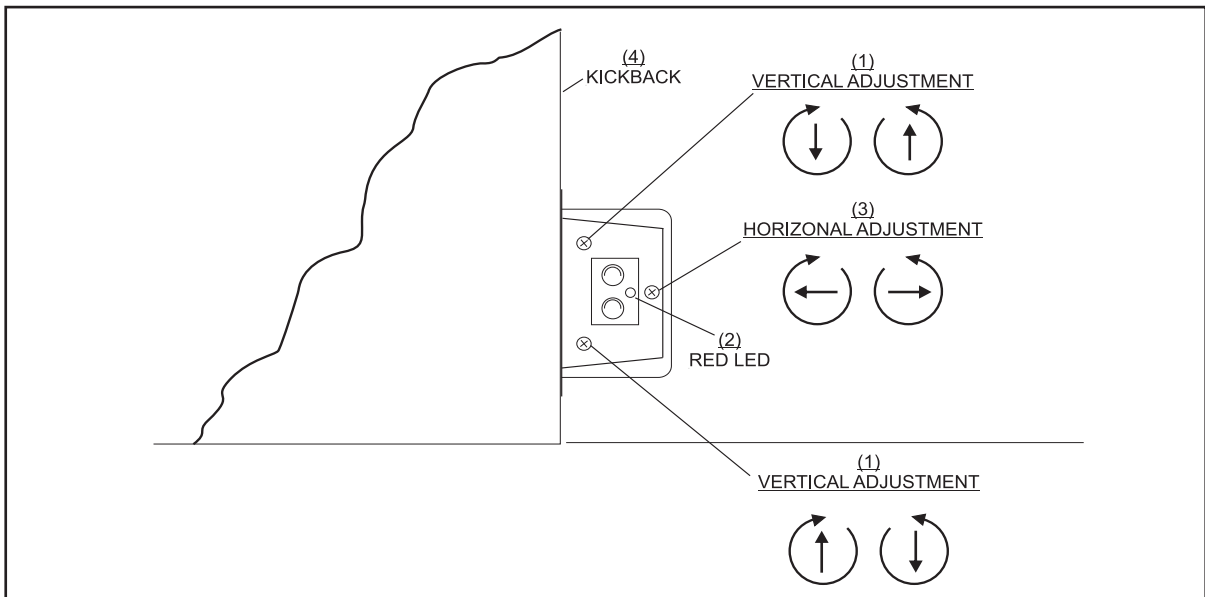

Figure 5-2. Ball Detect Beam Adjustment
The red LED (Light Emitting Diode) mounted on the ball detect is “on” when the beam is not being received back from the reflector. This indicates a ball or some object is in the beam's path or there is an alignment problem. Refer to *Figure 5-2*.
4. Using the vertical and horizontal adjusting screws (refer to *Figure 5-2*) move the beam until it is aimed exactly on the center of the mounted reflector.